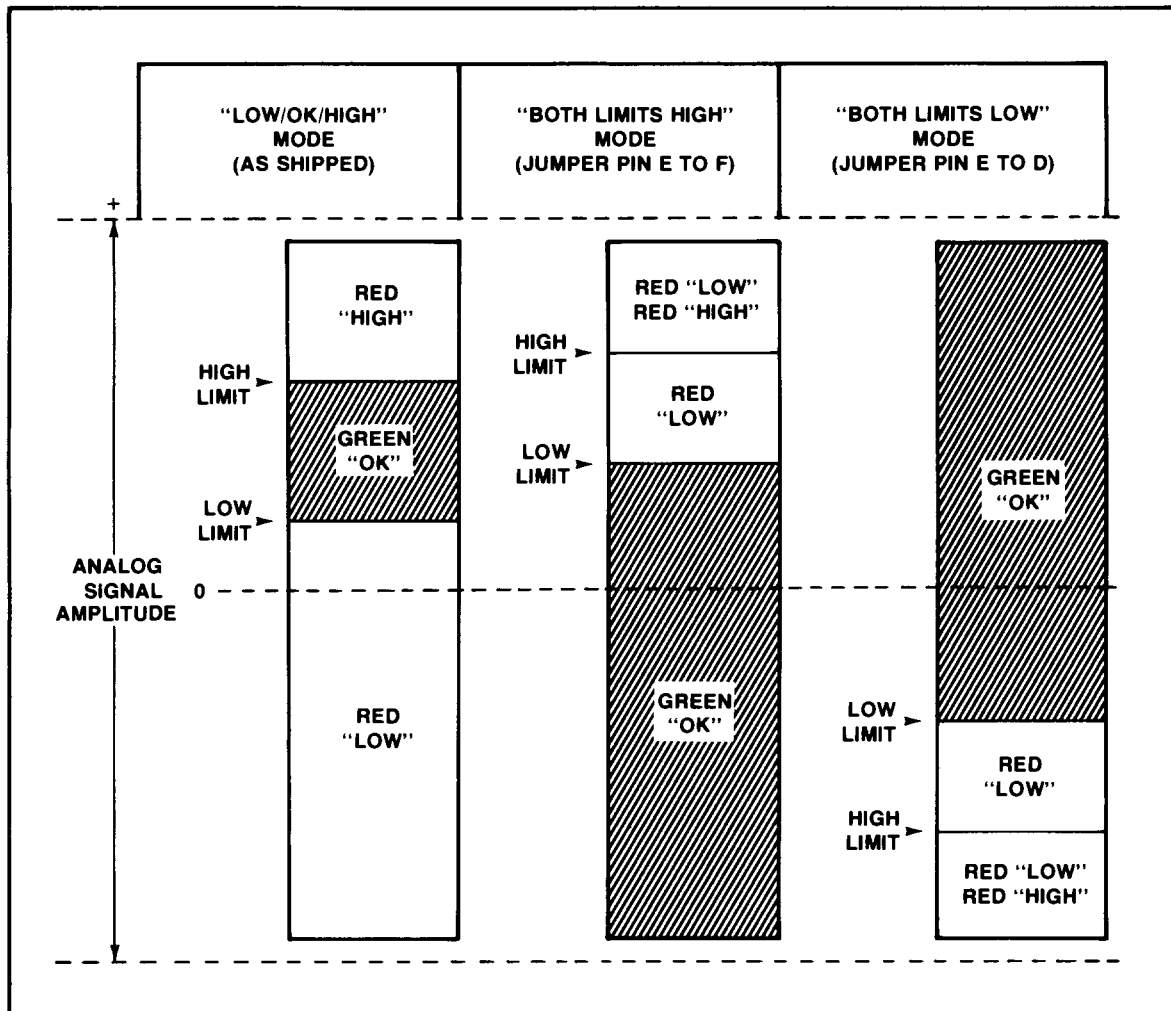

Figure 2. Limit Modes
**Limit Mode Selection.** Figure 2 illustrates the three modes in which 3300 Instruments can be operated. The unit is shipped from the factory with the *Low/OK/High* mode activated. In this mode, the *Low* limit is set some increment below the *High* limit. The increment between limits is the *OK* range. Either limit can be set positive or negative, as long as the *Low* limit is more negative than the *High* limit. When the *High* limit is exceeded, the front-panel LED status indicator (red) marked HIGH will light. When the analog signal drops below the *Low* limit, the front-panel LED status indicator (red) marked LOW will light. When the signal is between the two limits, the front-panel status indicator (green) marked OK will light. In this mode, only one of the three status indicators will light at any one time.
**Limit Setting.** Before setting the *Low* and *High* limits, the user should refer to Section 2 of this manual and become familiar with the limit mode in which the instrument is to be operated. Figure 2 illustrates the three operating modes by giving a graphic representation of typical limit settings. The *Limit* logic outputs wiring should also be reviewed before attempting to operate the instrument. This information is also contained in Section 2. To prevent inadvertent triggering of external circuits while setting the limits, remove the rear-panel *Limit* output connector. The connector can then be replaced after the proper limits have been set. To set the limits, proceed as follows: